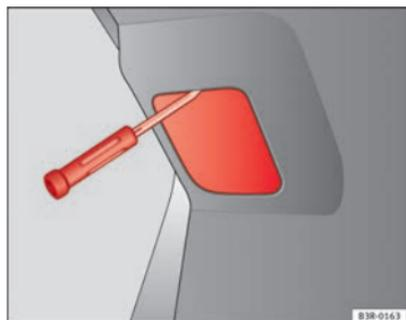

Fig. 219 Remove the cover from the rear lid
- Insert a screwdriver into the opening in the cover from the top ⇒ Fig. 219 and use it as a lever to detach the cover.